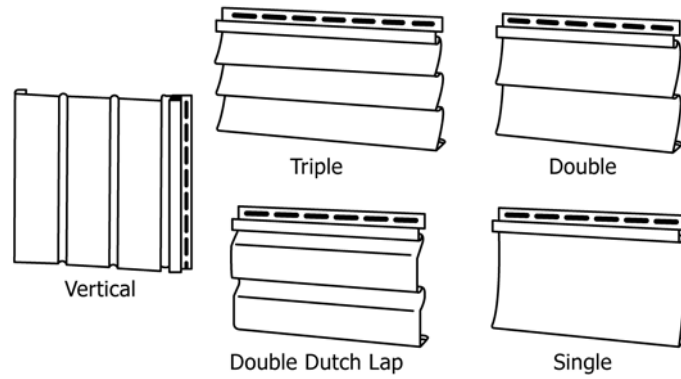

FIG. 3 Typical Siding Profiles
3.2.9 *nailslot punch*—a special hand tool used to create slots for attachment of field-modified siding or accessories. (See Fig. 3.)